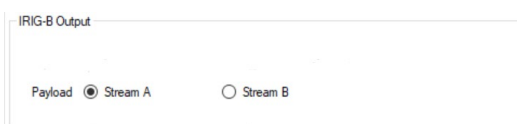

Figure 25 - IRIG-B "Payload" and multiple streams
*“Payload” radio button:* On clocks which support multiple IRIG-B streams, an additional field called “Payload” will be present. Refer to Figure 25. This feature allows the clock to be configured